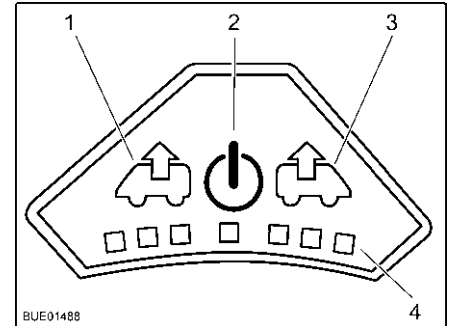

Fig. 63 Control panel for fan
Switching on: ■ Press the On/Off button (Fig. 63,2). The fan runs in comfort mode (venting at slowest fan speed).
Venting: ■ To increase the fan speed: Press the Vent button (Fig. 63,1). The fan speed in the venting direction increases by one level. LEDs (Fig. 63,4) show the operating levels.
■ To lower the fan speed: Press the Aerate button (Fig. 63,3). The fan speed decreases by one level.
Aerating: ■ To increase the fan speed: Press the Aerate button (Fig. 63,3). The fan speed in the aerating direction increases by one step. LEDs (Fig. 63,4) show the operating levels.
■ To lower the fan speed: Press the Vent button (Fig. 63,1). The fan speed decreases by one level.
- Press the On/Off button (Fig. 63,2). The fan stops, the LEDs go out.